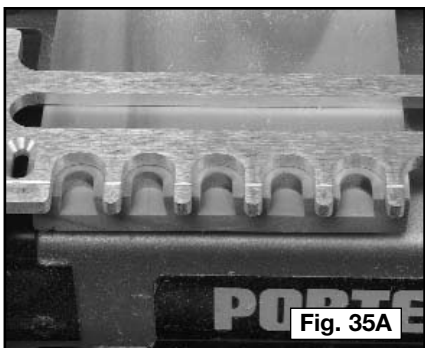

Fig. 35A
**Step 1** - Cut the tails. Clean out all of the areas between the fingers(Fig. 35A).